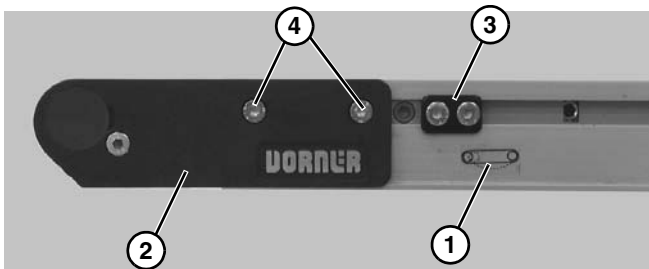

Figure 35
4. On tension end of the conveyor, identified with a  label (**Figure 35, item 1**), push in head plate assembly (**Figure 35, item 2**): On both sides of conveyor, loosen and move cam tracking assemblies (**Figure 35, item 3**) (if equipped) away from head plates, then loosen fastening screws (**Figure 35, item 4**) and push head plate assembly inward.